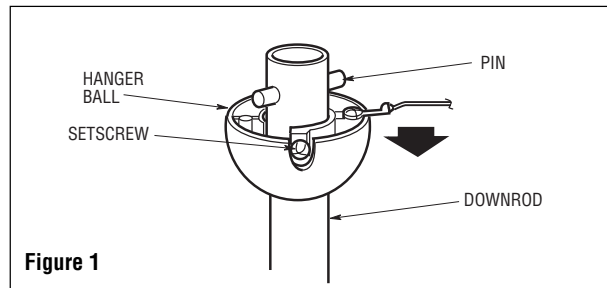

Figure 1
1. Remove the hanger ball by loosening the setscrew in the hanger ball until the ball falls freely down the downrod (Figure 1). Remove the clevis pin from the downrod, then remove the hanger ball. Retain the pin and hanger ball for reinstallation in Step 5.